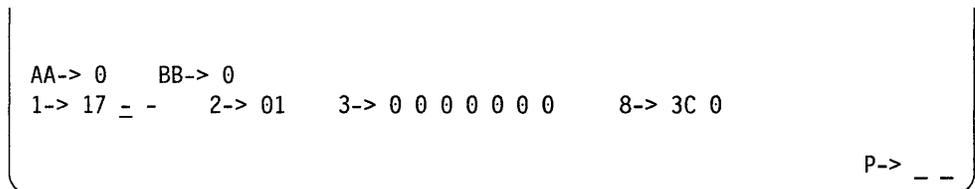

Figure 3-13. Cursor Under First Dash
- d. Press the Cursor Right key to move the cursor under the first dash next to Field 1 on the display screen (see Figure 3-13).